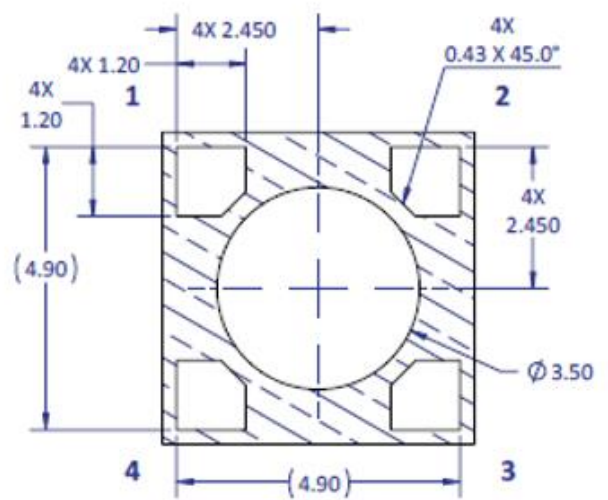

Figure 2b: Recommended solder mask opening for anode, cathode, and thermal pad for non-pedestal and pedestal design
4. This emitter is compatible with all LZ1 MCPCBs provided that the MCPCB design follows the recommended solder mask layout (Figure 2b).
Note for Figure 2b: